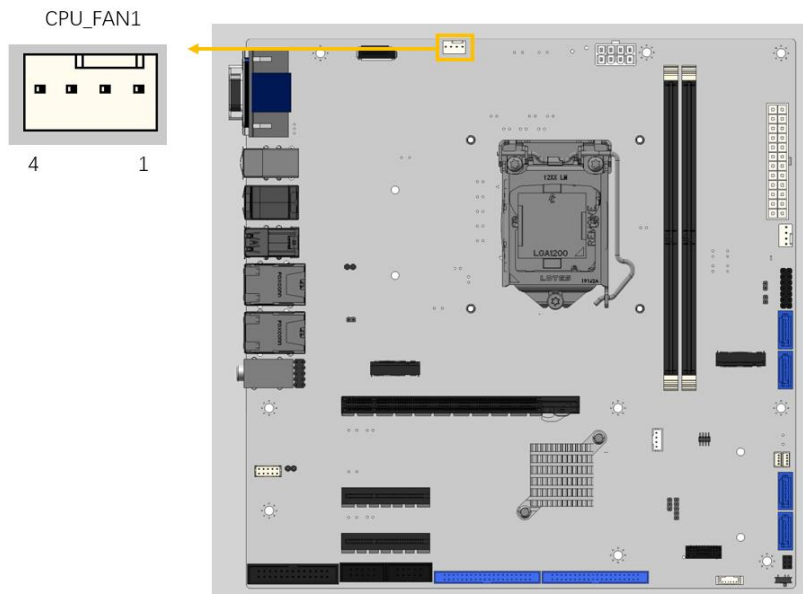

Figure 3-13: CPU Fan Connector Location
- CN Location:** See Figure 3-13